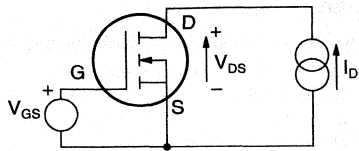

Figure 10: N-Channel $R_{DS(ON)}$ Measurement
F. $R_{DS(ON)}$ – The static drain-source on-state resistance. It is measured as the drain-source voltage divided by the drain current at specified values of drain current and gate source voltage. (See Figure 10 for the measurement circuit.)